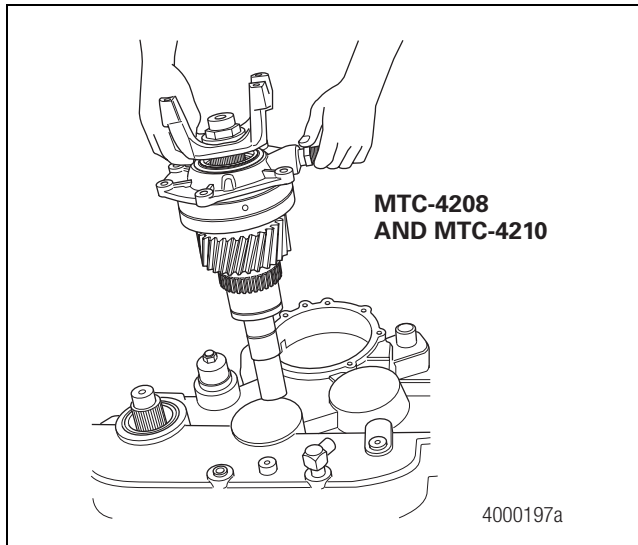

Figure 4.10
1. Support the front input shaft and bearing cage assembly at the workbench. Figure 4.10.